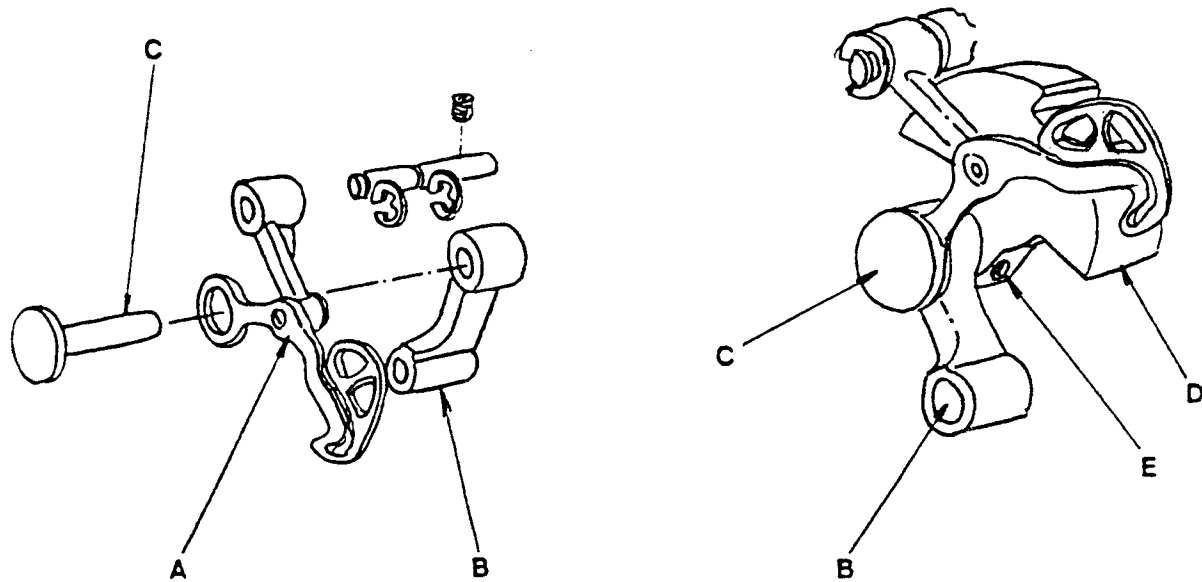

Fig. 2
Remove face plate and check for lateral play in thread take-up lever (A); check rivet for tightness. Check that thread take-up stud (C) is properly fastened to needle bar crank (D) with set screw (E). (Fig. 2).